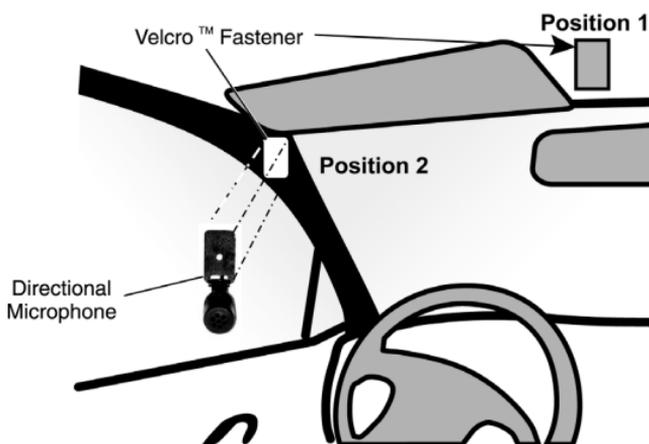

Figure 11. Installing the Microphone
attachment location for the least noise pick-up is the center of the vehicle above the front windshield (position 1 in Figure 11). If this location is not feasible or is too close to the speaker for good echo canceling performance, the microphone can be placed on the vehicle's A pillar between the front windshield and the driver's door (position 2 in Figure 11).
To install the directional microphone, see Figure 11.
1. Attach the microphone to **position 1 or position 2 in Figure 11** using a Velcro™ fastener. Verify that the microphone is facing the **driver's lips at a distance of approximately 40cm and out of any possible air flow.**
| 7 | A bothersome background echo is heard at the far end during a phone or dispatch call. | <ol style="list-style-type: none"><li data-bbox="386 178 971 305">1. Verify the speaker is mounted properly (at least 0.9m away) and not pointed at the microphone. Move and/or readjust the speaker and re-test for echo.<li data-bbox="386 314 971 414">2. Verify the microphone is pointing directly at the driver's lips and not towards the speaker.<li data-bbox="386 424 971 578">3. If the above two steps do not resolve the echo, increase the distance between the microphone and the speaker, perhaps by moving the microphone from position 1 to position 2 in figure 11. |